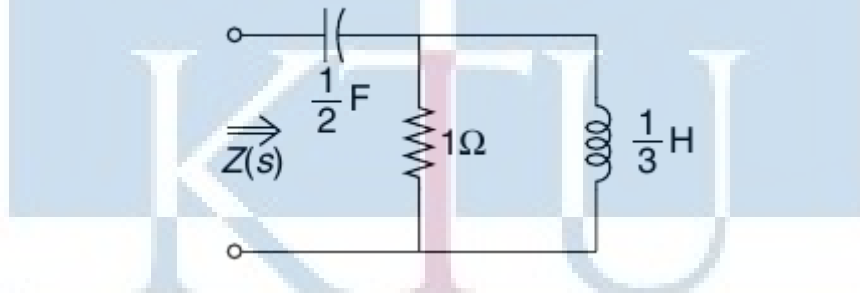

Figure 8: Figure for question 18 (b).
17. (a) Test the following polynomials for the Hurwitz property: (6)
- (b) Determine whether the following functions are positive real or not: (8)
18. (a) Find the limits of K so that the polynomial $s^3 + 14s^2 + 56s + K$ may be Hurwitz. (6)
- (b) Find the driving point impedance $Z(s)$ in the form $K \frac{N(s)}{D(s)}$ for the network shown in Fig. 8. Verify that $Z(s)$ is positive real and that the polynomial $D(s) + KN(s)$ is Hurwitz. (8)